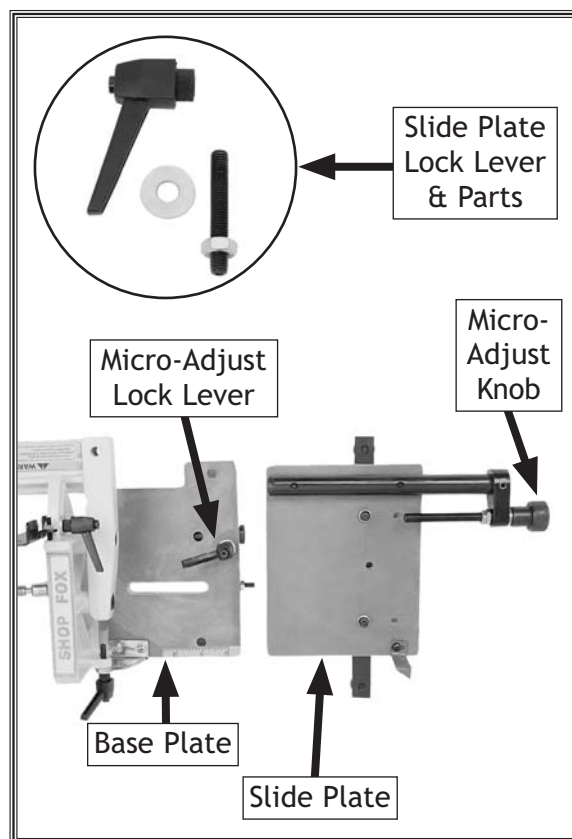

Figure 7. Slide and base plates separated.
1. Remove the slide plate lock lever and flat washer, then unthread the long set screw that the lock lever was attached to (see Figure 7).
2. Loosen the micro-adjust lock lever, then rotate the micro-adjust knob counterclockwise to force the slide plate to move and separate from the micro-adjust screw, as shown in Figure 7.